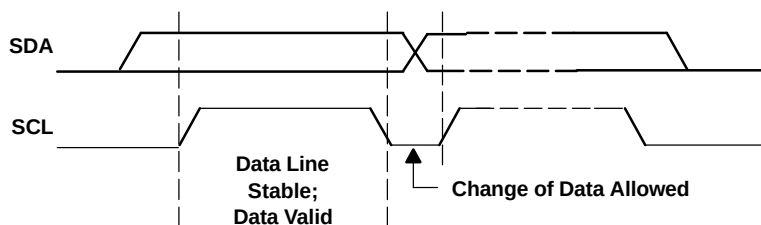
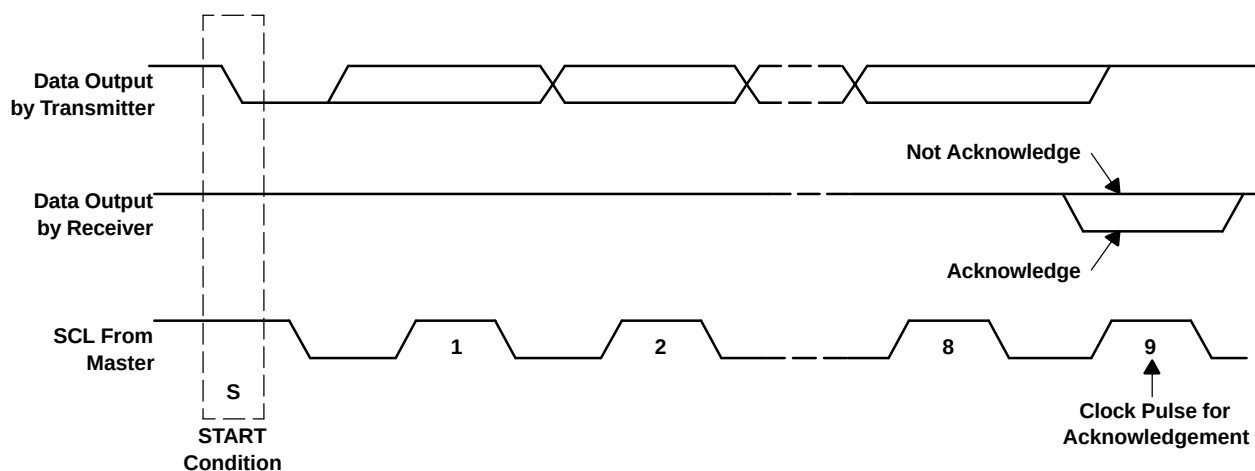

Figure 30. Bit Transfer on the I²C Bus
Figure 31. Acknowledge on the I²C Bus
- The master then generates the SCL pulses, and transmits the 7-bit address and the *read/write direction bit* $R/\overline{W}$ on the SDA line. During all transmissions, the master ensures that data is *valid*. A *valid data condition* requires the SDA line to be stable during the entire high period of the clock pulse (see Figure 30). All devices recognize the address sent by the master and compare it to their internal fixed addresses. Only the slave device with a matching address generates an *acknowledge* (see Figure 31) by pulling the SDA line low during the entire high period of the ninth SCL cycle. Upon detecting this acknowledge, the master knows that communication link with a slave has been established.